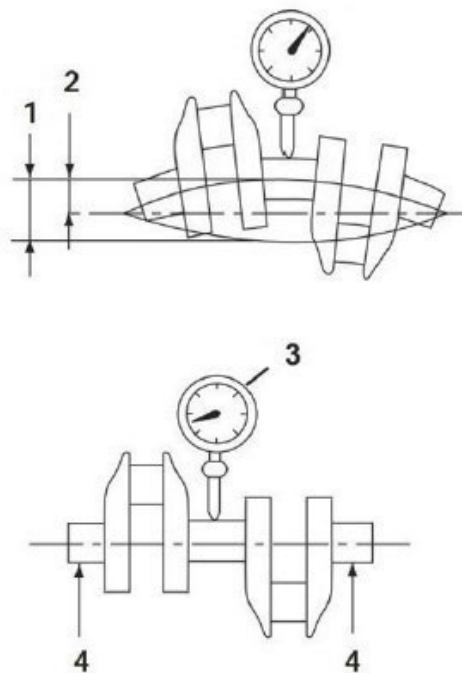

Figure 114.
1. Place the crankshaft end journals (Figure 114, Item 4) on V-blocks.
2. Place a dial indicator (Figure 114, Item 3) on a center main bearing surface.